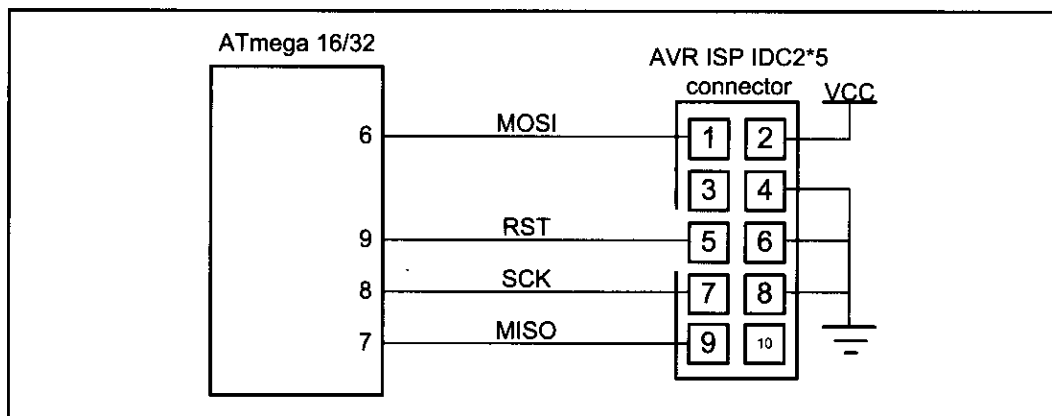

Figure 8-11. ISP 10-pin Connections (See [www.Atmel.com](http://www.Atmel.com) for 6-pin version)
2. **An in-circuit serial programmer (ISP)** allows the developer to program and debug their microcontroller while it is in the system. This is done by a few wires with a system setup to accept this configuration. In-circuit serial programming is excellent for designs that change or require periodic updating. AVR has two methods of ISP. They are SPI and JTAG. Most of the ATmega family supports both methods. The SPI uses 3 pins, one for send, one for receive, and one for clock. These pins can be used as I/O after the device is programmed. The designer must make sure that these pins do not conflict with the programmer. Notice that SPI stands for "serial peripheral interface" and is a protocol. But ISP stands for "in-circuit serial programming" and is a method of code loading. AVRISP and many other devices support ISP. To connect AVRISP to your device you also need to connect VCC, GND, and RESET pins. You must bring the pins to a header on the board so that the programmer can connect to it. Figure 8-11 shows the pin connections.